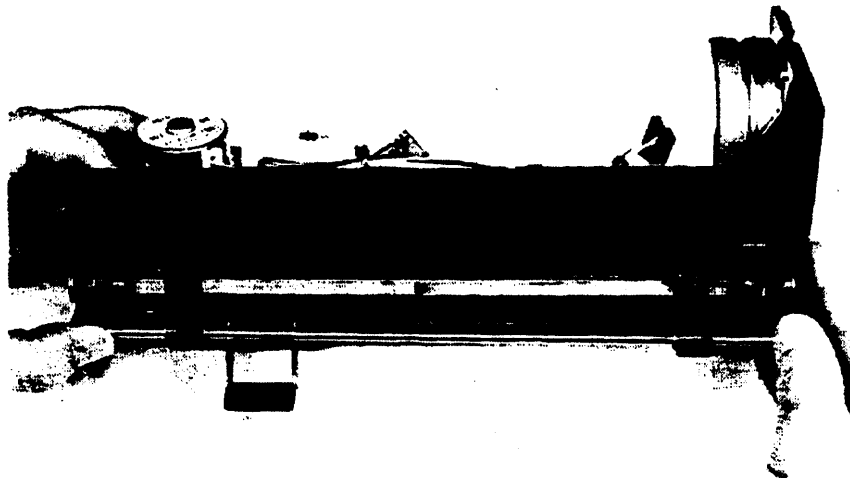

Figure 6-13. Bail-Arm Adjustment—Right Side
1. Apply downward pressure on the left side of the bail-arm assembly while lifting the right side of the bail. See figure 6-13. The right pinch roller should lift a short distance ($\frac{1}{8}$ to $\frac{1}{4}$ inch) off the grit wheel before meeting heavy resistance.